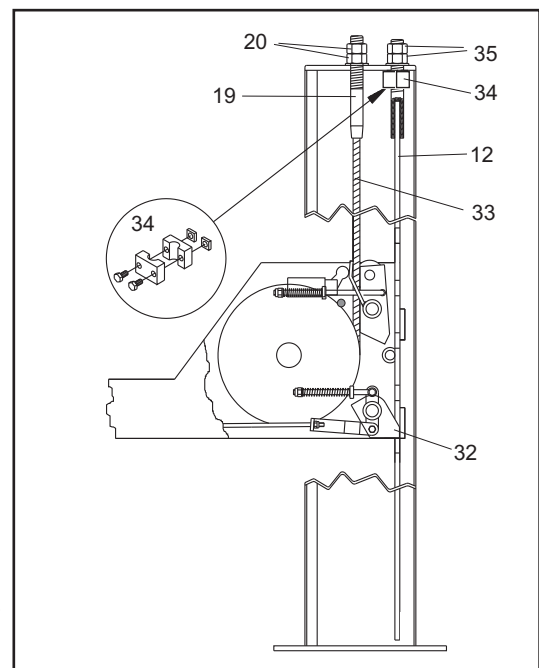

Fig. 54 Pre-adjustment of lift cables
Position the lift so that the four wedges (32) in fig. 54 are firmly seated in the slots on the safety rods (12). Adjust the nuts (20) on the terminal blocks (19) of the lift cables (33) to level the platforms (7 and 8) so that the entire surface of the movable section of the lift is perfectly level.